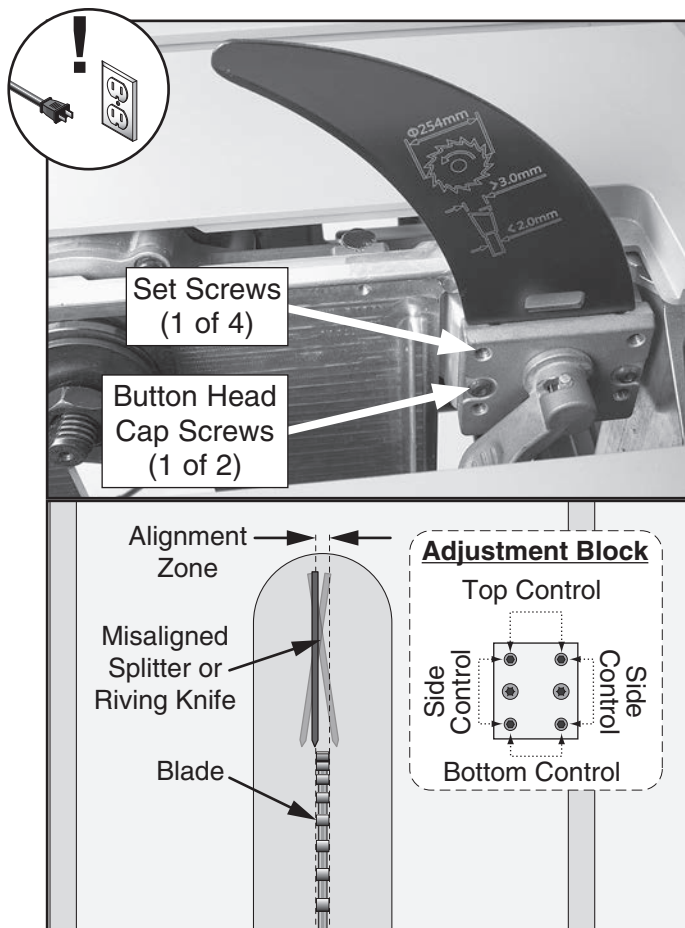

Figure 88. Set screws for adjusting spreader/riving knife position.
- Loosen (2) cap screws on mounting block, then adjust either top or bottom control set screws or side control set screws (see **Figure 88**) to move it the needed direction.